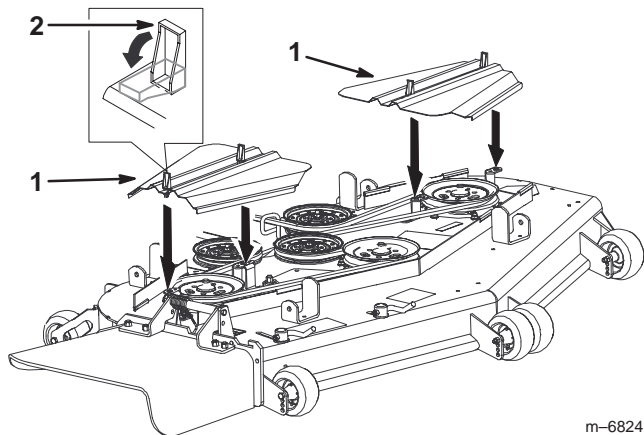

Figure 74
3. Remove the belt covers (Fig. 74).
7. Install the belt covers and close the latches (Fig. 74).